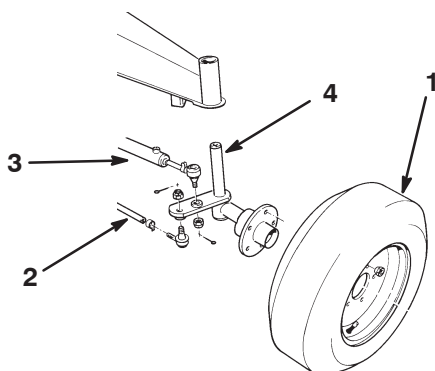

Figure 1
1. Disconnect/remove the rear tires, tie rod assembly and steering cylinder from the wheel spindles. Remove the wheel spindles from the axle (Fig. 1).